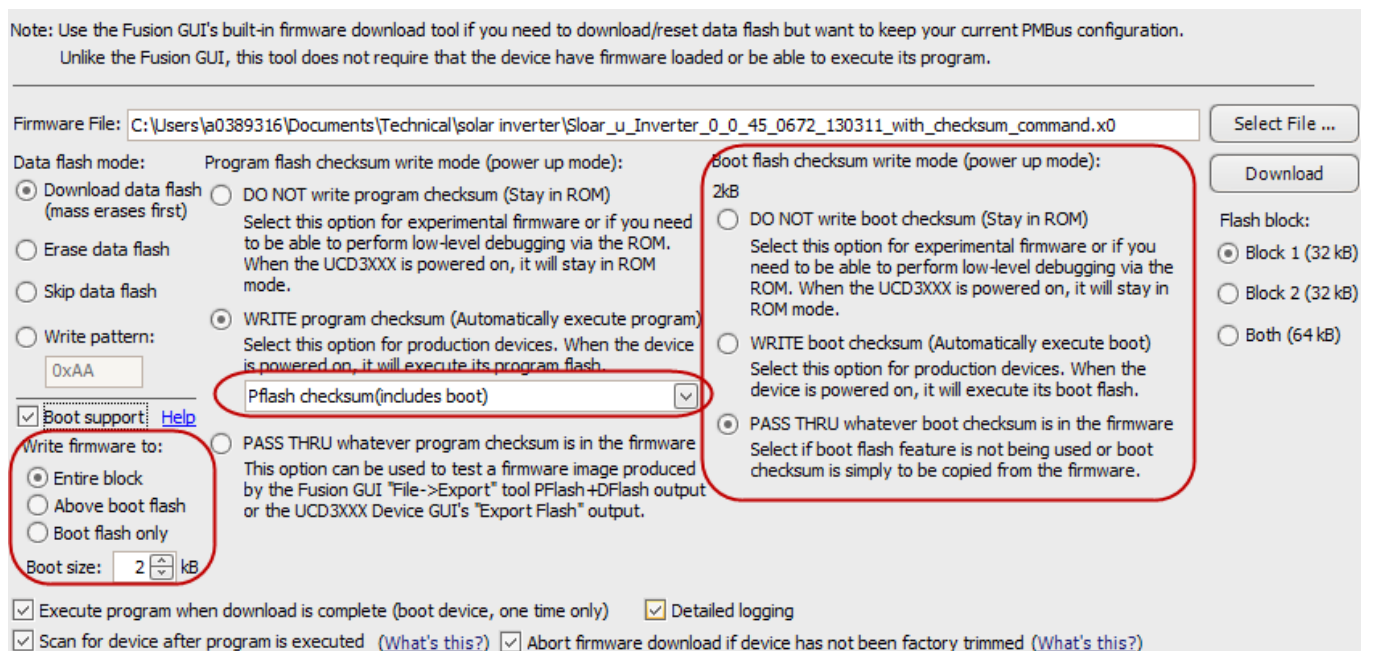
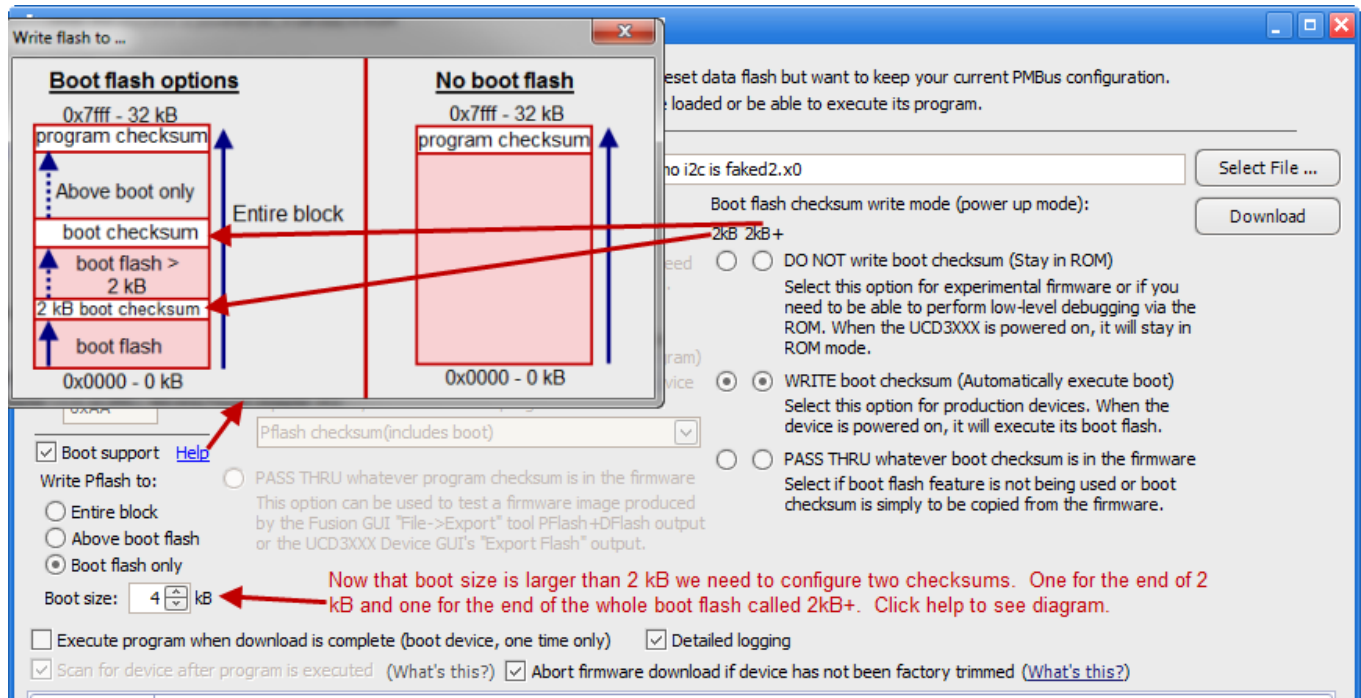

Figure 57 - Bootflash options
Figure 59 - Two checksums for boot flash greater than 2kB
The first option to configure for Boot Support is “Write firmware to:” as circled in Figure 57.
- “Boot size”: Can range from 2 kB to 31 kB. For a boot size of 2 kB then there is only one option for the boot flash checksum as shown in Figure 57. If the boot size is greater than 2 kB there is another option to set a checksum for the remainder of the boot flash as shown in Figure 59.